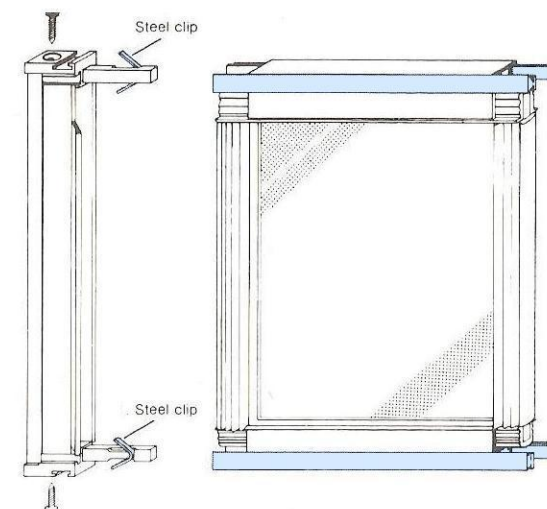

Figure 12
k) Now insert a steel clip in each corner piece and offer up Section D1 to the gasket, inserting the corner piece legs with clips into their housing in the horizontal glass carriers (Figure 12).